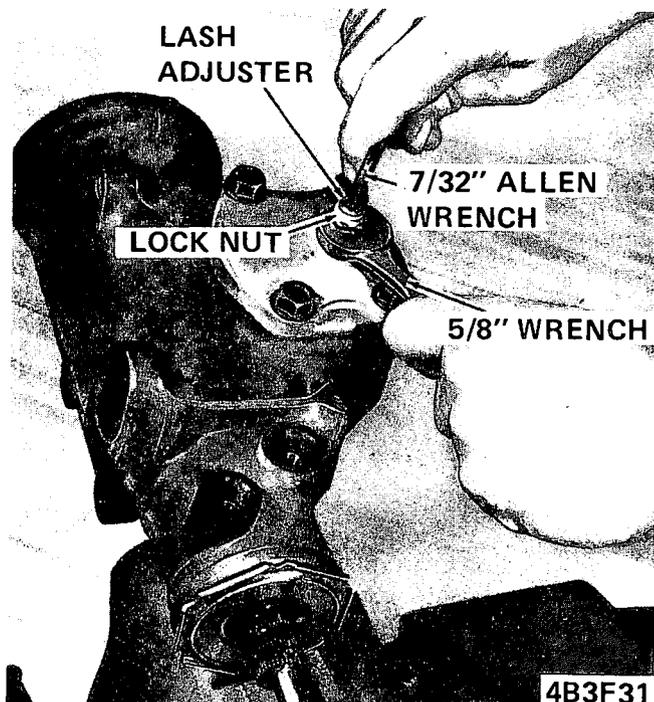

Figure 3F-31 - Pitman Shaft Adjuster
2. Loosen the pitman shaft lash adjuster screw 1-1/2 turns and retighten the lock nut. If it bottoms, turn it back 1/2 turn. Figure 3F-31.